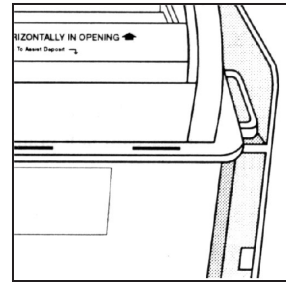

Figure 1
- With deposit opening facing you, slide sharps container by handles into cabinet so that sharps container is suspended by both handles resting on ledges near top of cabinet (Figure 1).